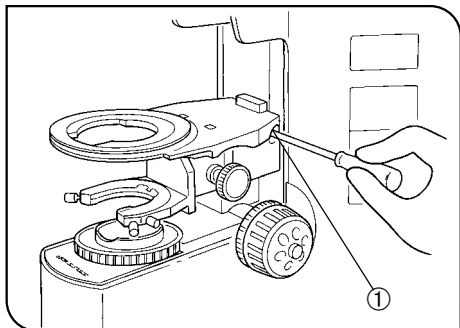

Fig. 15
(Figs. 15 &amp; 16)
2. Using the Allen screwdriver, loosen the substage bracket clamping screw ① and remove the substage assembly. (Fig. 15)